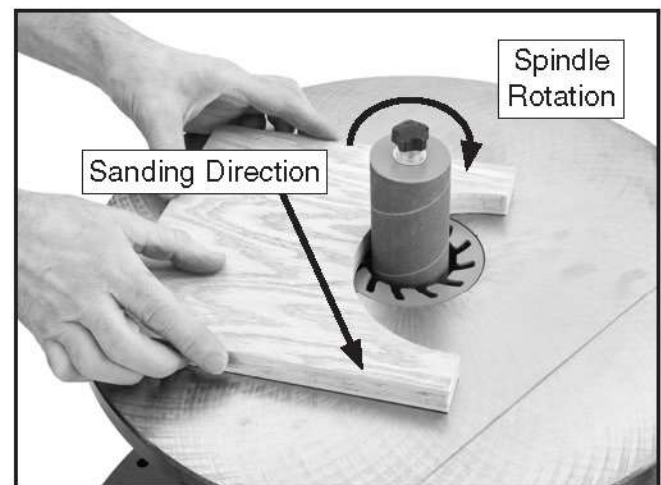

Figure 14. Sanding workpiece.
3. Using both hands, guide the workpiece against the sanding sleeve in a right-to-left manner, as shown in **Figure 14**. DO NOT force the workpiece against the sanding sleeve.